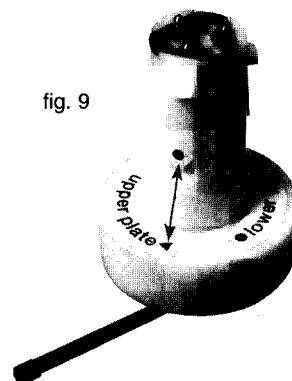

fig. 9
Change the tool to „upper clamping element“ and position the clamping element exactly. (Fig. 9)
Compress the two snap hooks by means of a pair of tweezers (Fig. 9) and remove the roller assy (A) from the plate (B).